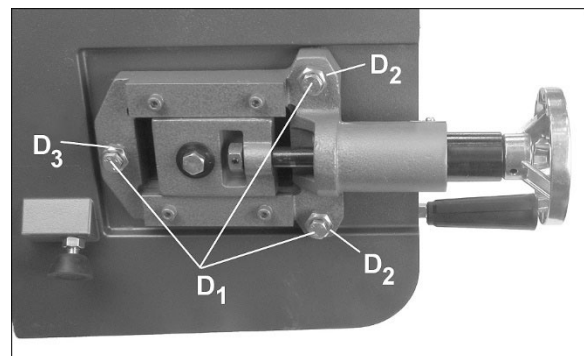

Figure 7-2
7. Start saw blade, and slowly turn *left* hex adjustment screw (D₃, Figure 7-2) to tilt idler wheel. Do not turn either of the other two adjustment screws (D₂).